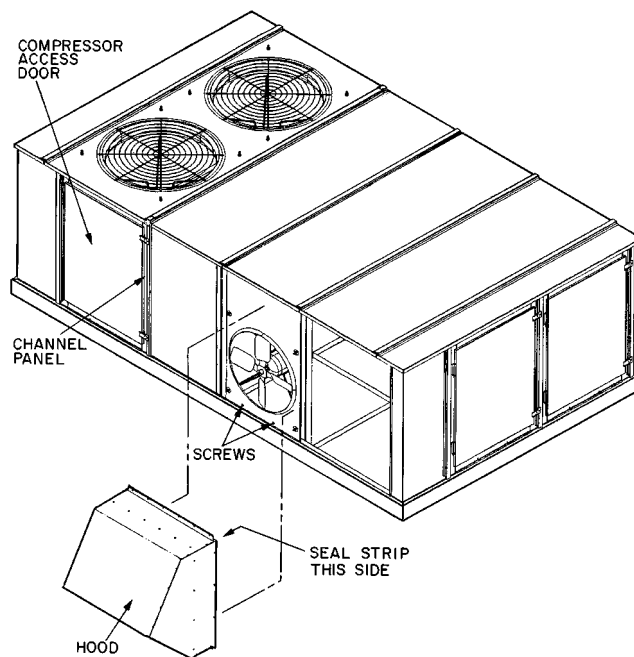

Fig. 15 — Power Exhaust/Barometric Relief Hood
1. Remove the lagscrews holding hood assembly to shipping skid. See Fig. 15. Before installing the hood on the unit, remove the channel panel attached to the barometric relief/power exhaust fan deck and the compressor access door. Also, remove the middle 2 screws holding the fan deck to the base rail.
1. Remove the lagscrews holding the hood assembly to the shipping skid. See Fig. 15.